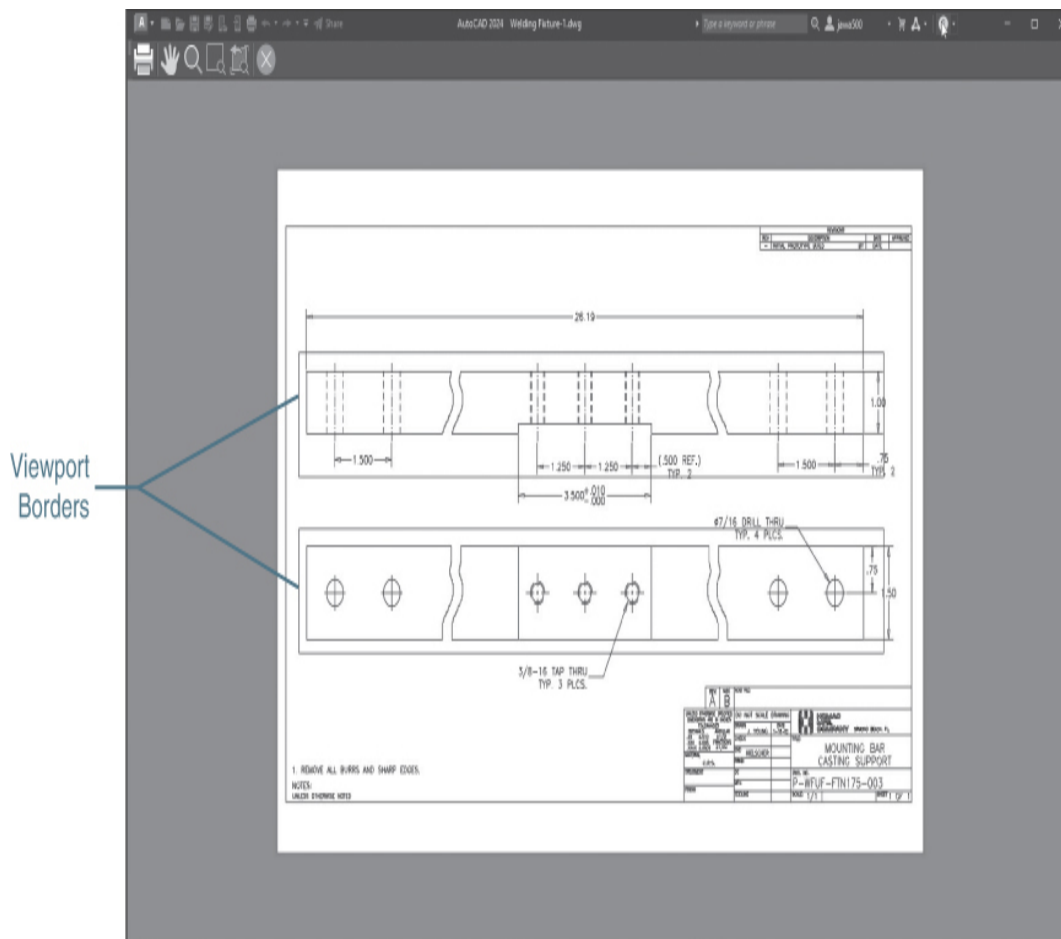

Figure 15-7
- 3** Start the **PLOT** command to display the **Plot** dialog box, and select the **Preview...** button to display the plot preview. Notice that the viewports are displayed on the plot preview (see Figure 15-7). This is because the viewports are currently on a plotting layer.